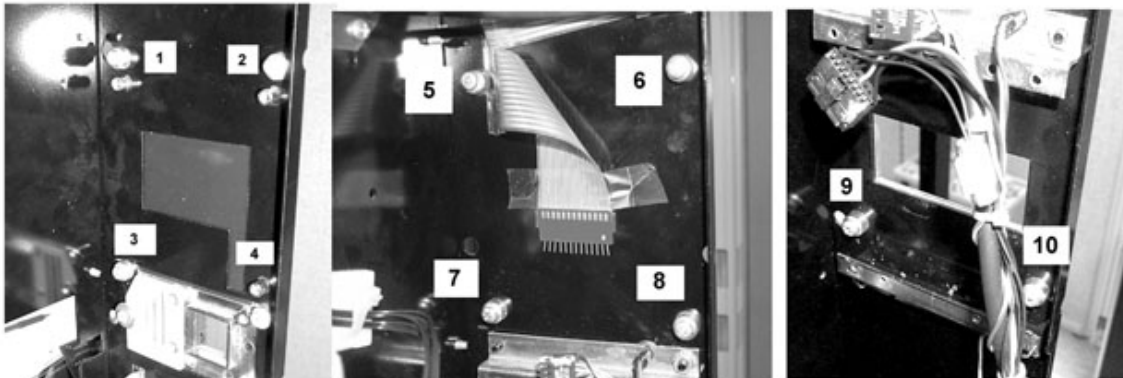

Figure 6
8. Referring to figure 6, remove the 10 capped screws on the rear side of the selection panel.